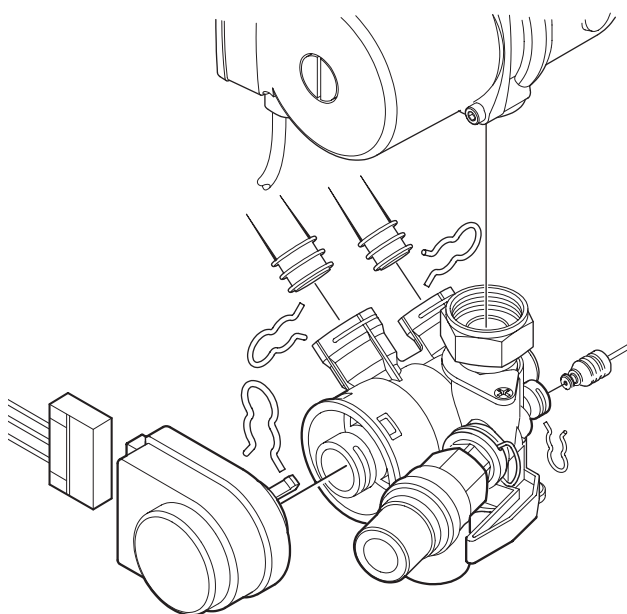

Fig. 56
- ▶ Unplug connector from 3-way valve motor. Refer to fig. 56.
- ▶ Disconnect the capillary head from the rear of the diverter valve by withdrawing the clip and pulling out the head. Refer to fig. 56.